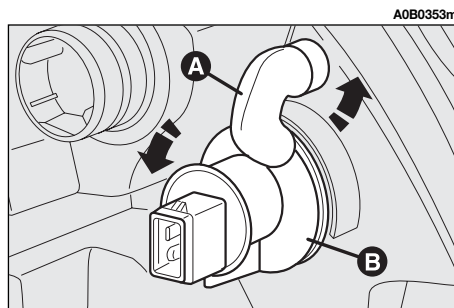

fig. 29
- Turn the cover counter-clockwise (**A-fig. 29**).